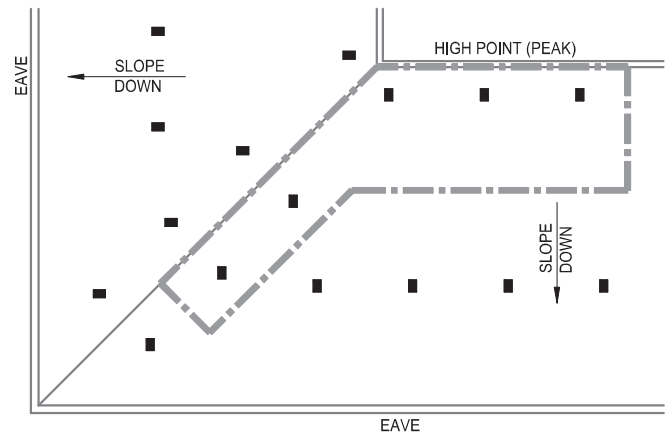

FIGURE 23B: 2 ROW PROTECTION CALCULATION 1
- Calculation #1: Calculate the 3 most hydraulically demanding contiguous DS sprinklers located along the high point (peak) plus the 2 most demanding sprinklers along the hip line. See FIGURE 23B.